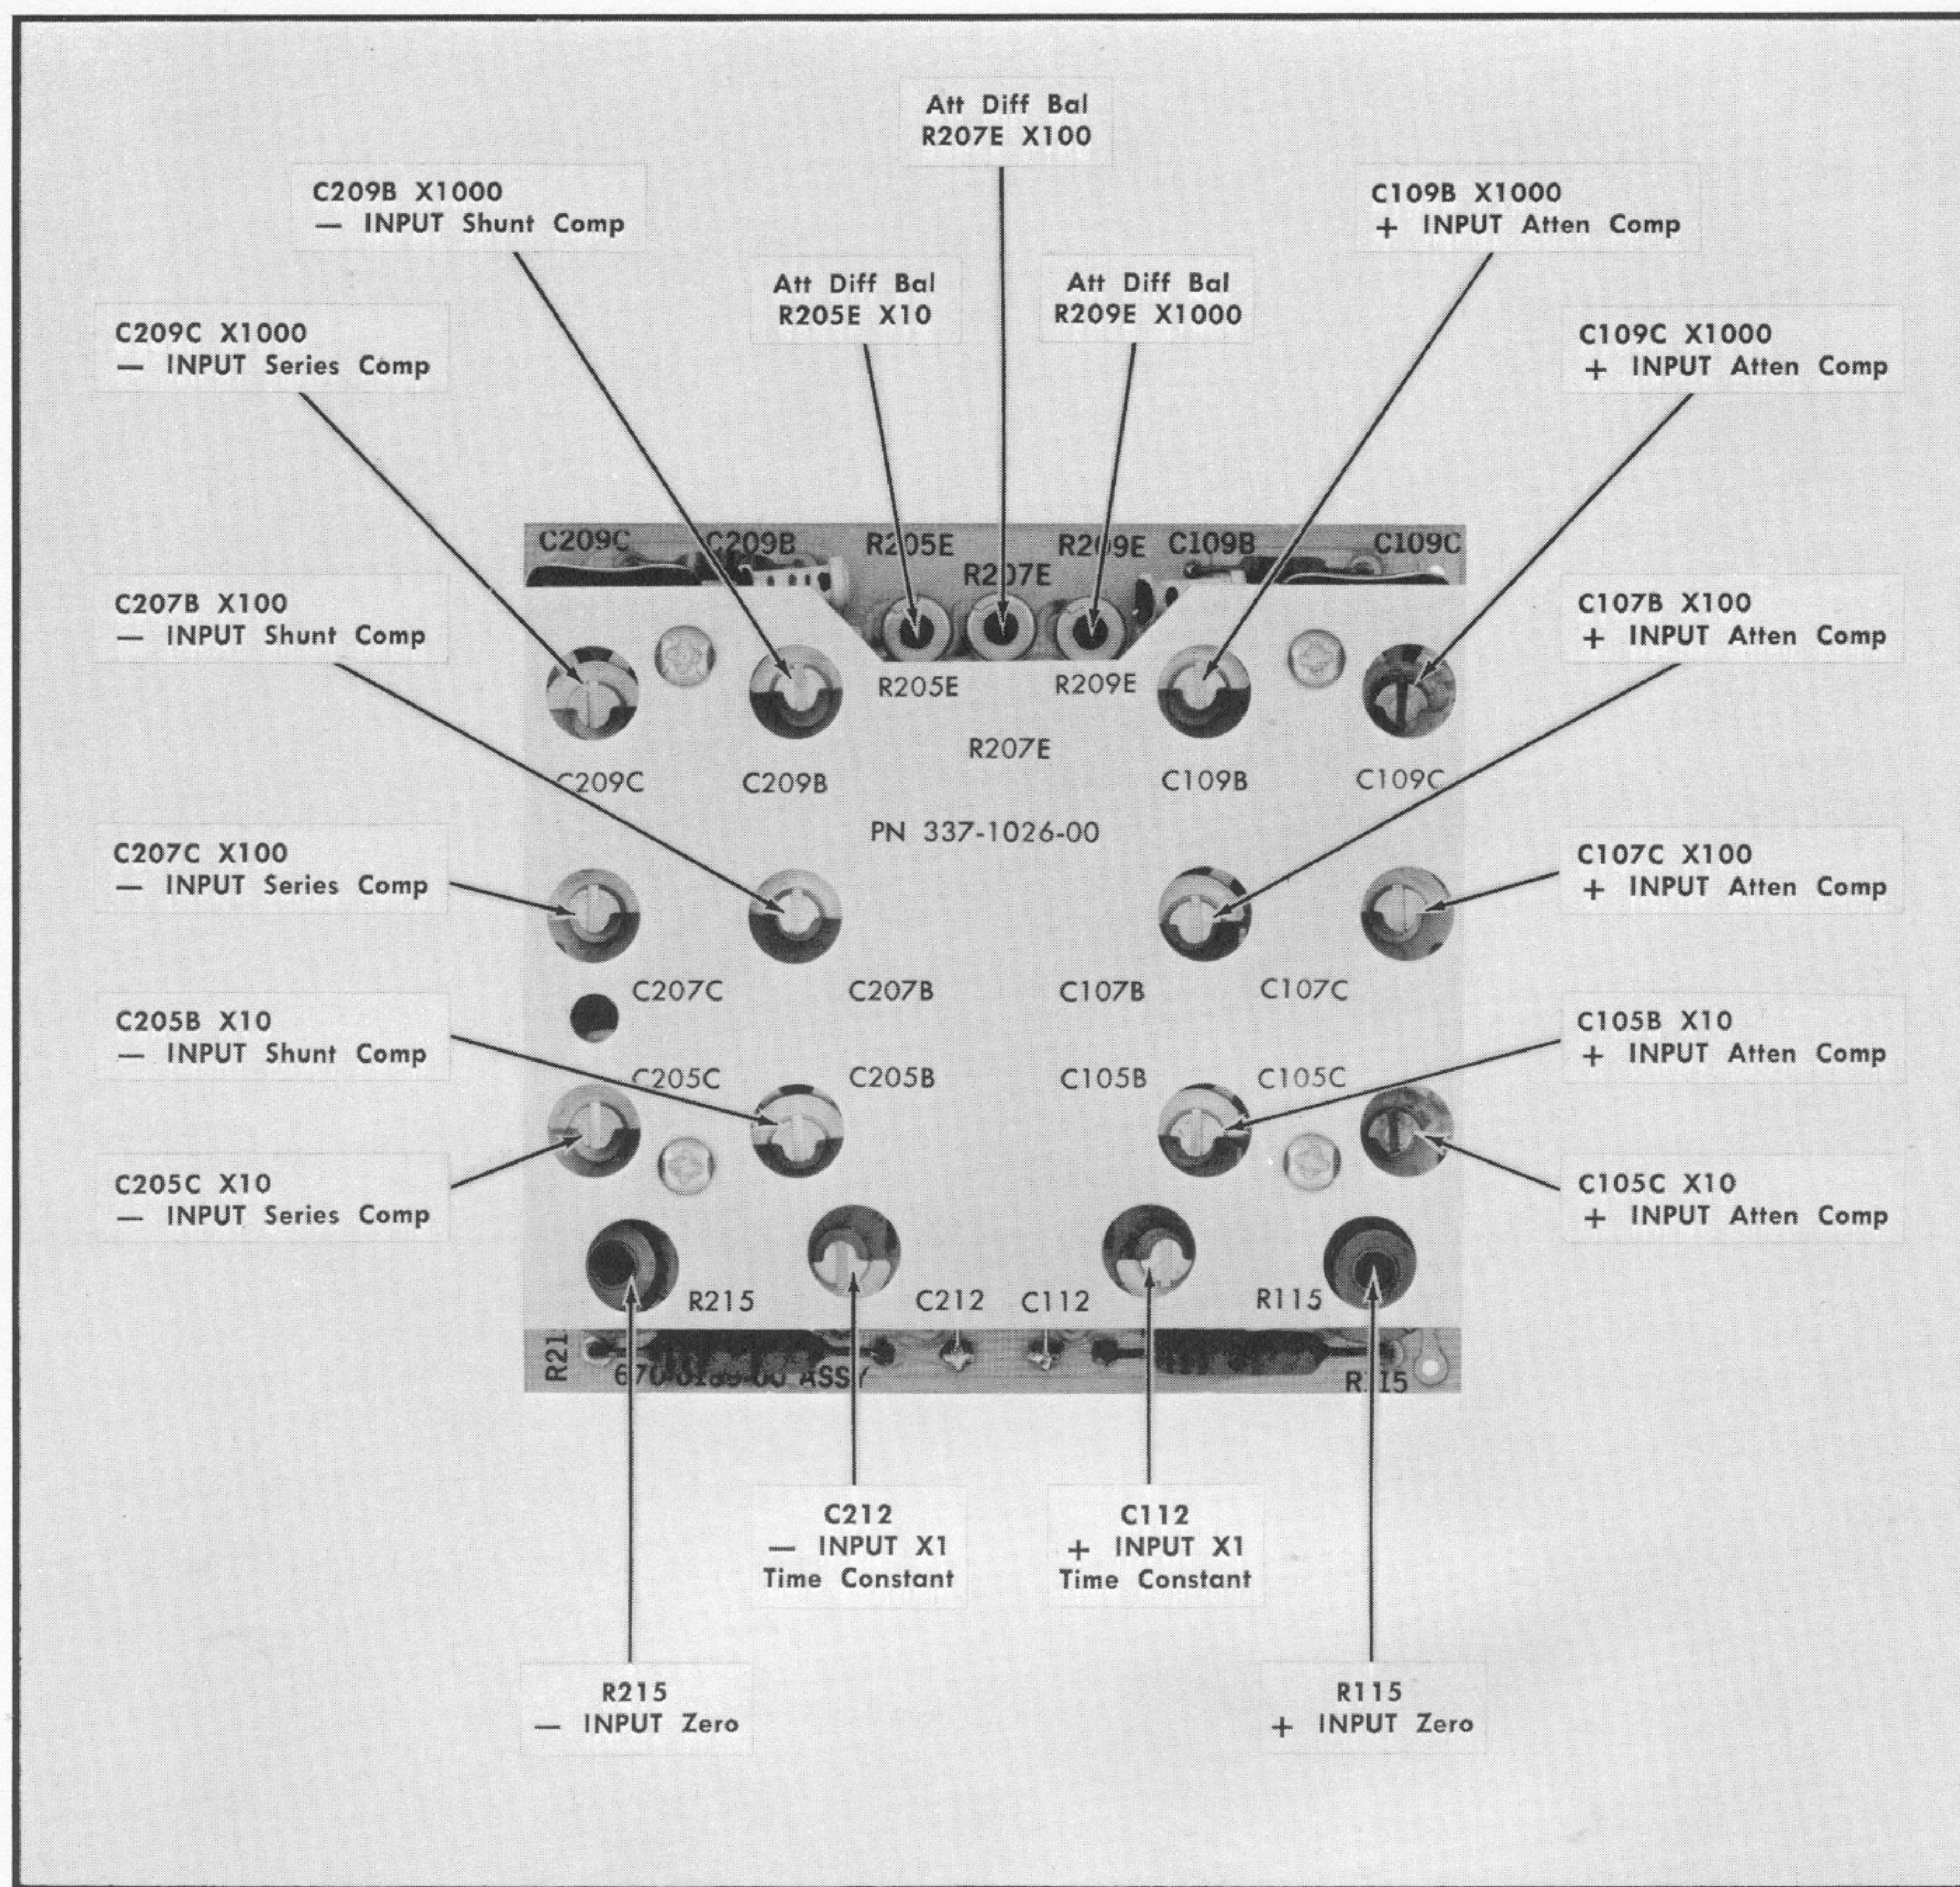

Fig. 5-8. Adjustments located on the Attenuator board.
- f. ADJUST—The + Input Zero control, R115 (see Fig. 5-8) to return the trace to graticule center.
- ADJUST—The — Input Zero control, R215 (see Fig. 5-8) to position the trace to graticule center.
h. ADJUST—C112 (see Fig. 5-8) to obtain best square wave response.